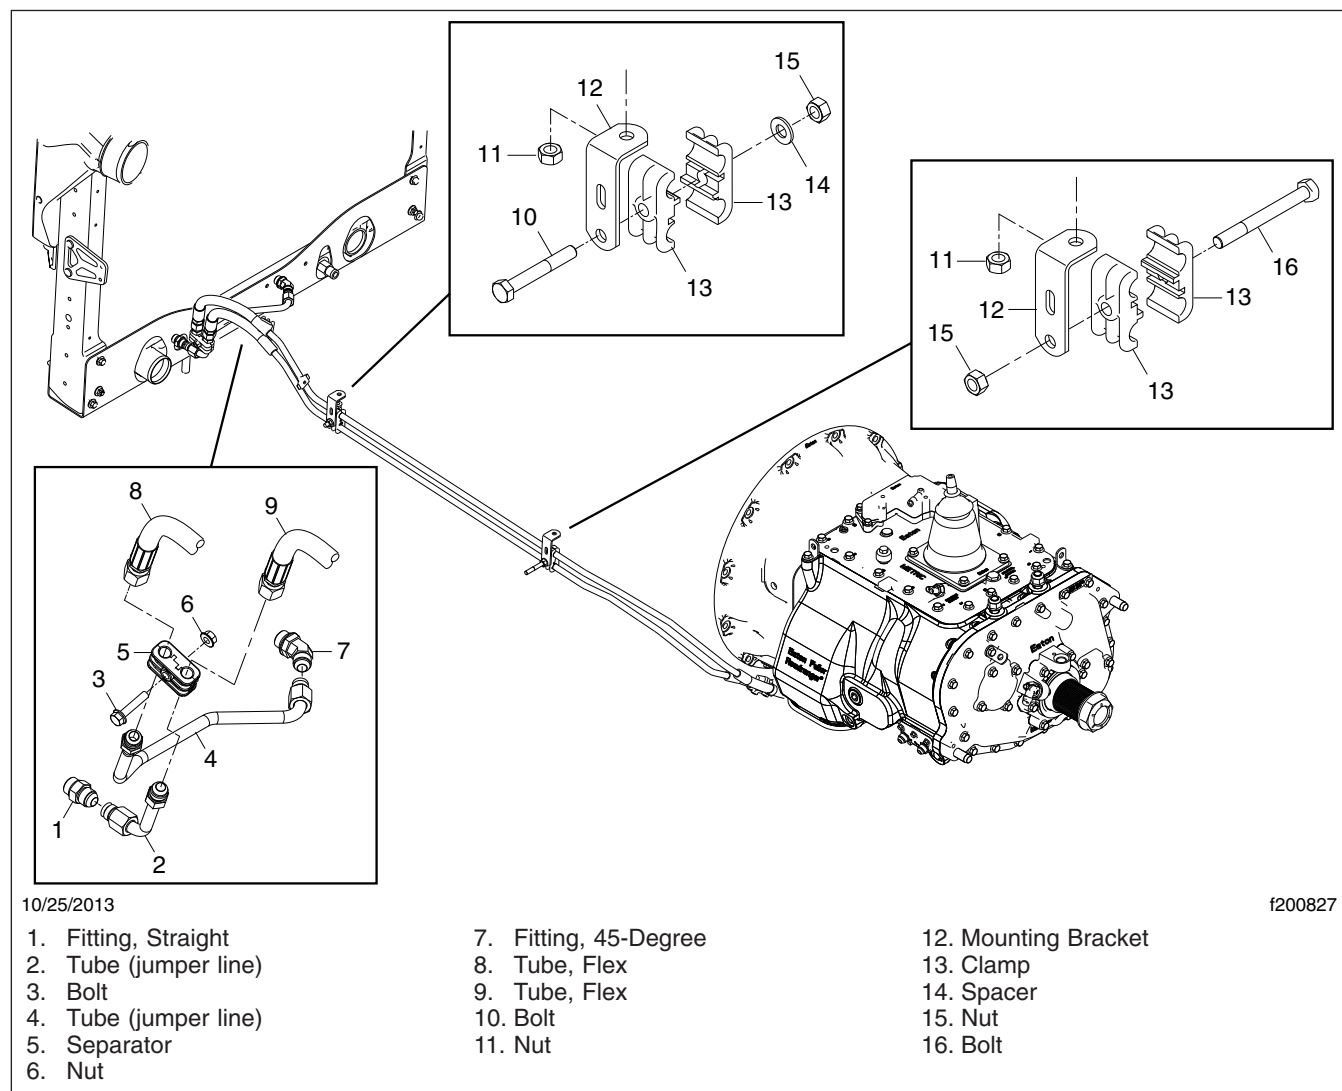
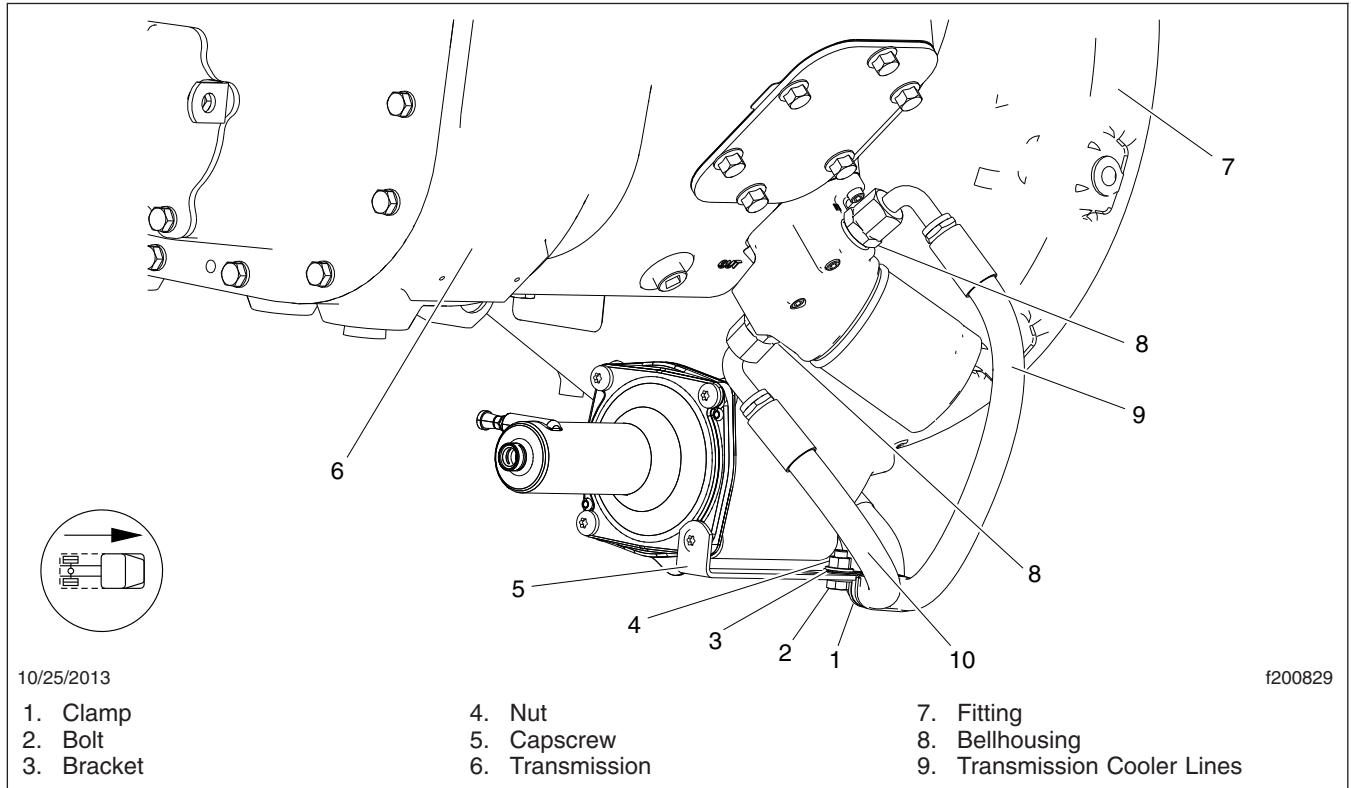

Fig. 5, Transmission Cooler Line Installation (typical)
Fig. 7, Transmission Cooler Line Installation, without Filter
23. Install the new transmission cooler lines from the transmission to the jumper lines on the radiator. Do not install the jumper lines at this time. See Fig. 5, Fig. 6, and Fig. 7. For more vehicle-specific plumbing diagrams refer to EZWiring in PartsPro.